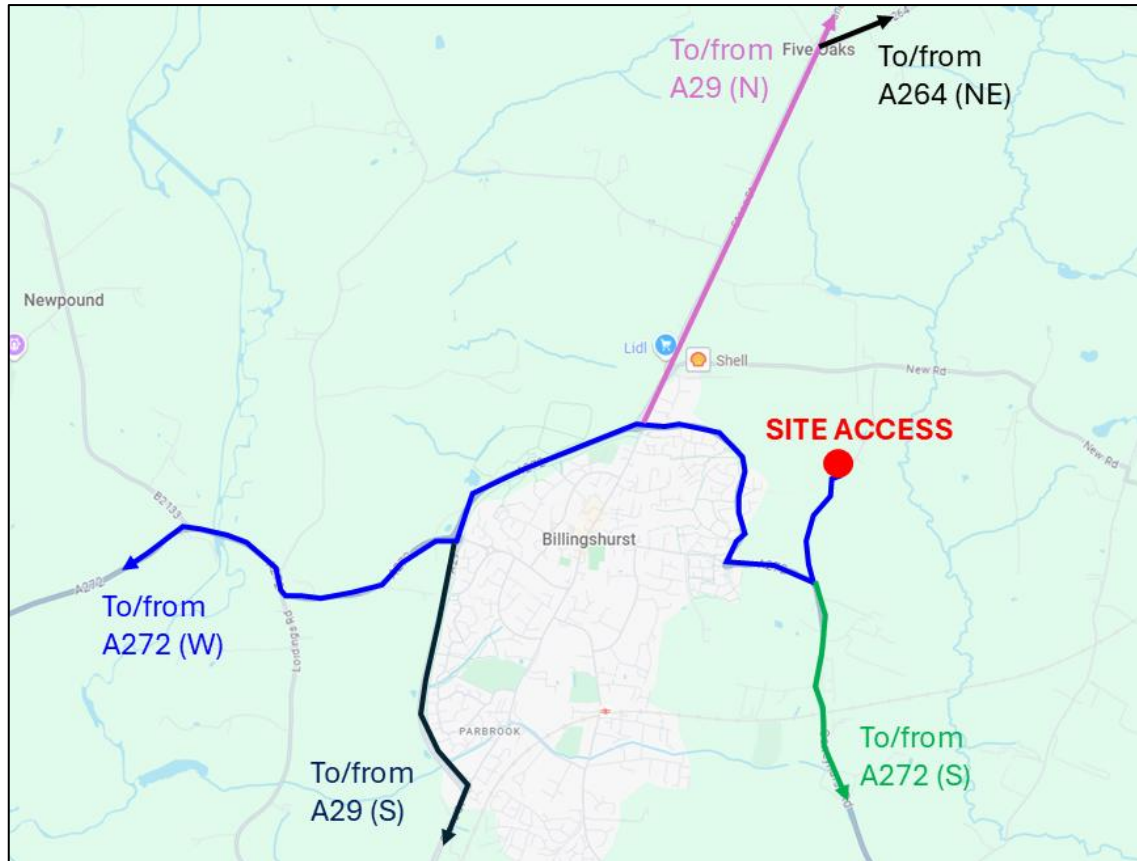

Figure 4.1: Indicative Routing Strategy
4.14 In order to access the site, vehicles will have to access Wooddale Lane via the A272 from Billingshurst or from the south, out of Billingshurst. Any heavy goods vehicles (max gross weight of 7.5 tonnes or higher) will be routed to avoid local residential roads. It is considered that the site can be accessed from the strategic road network along the A272 which can therefore accommodate regular HGV movements. Overall, it is considered that Wooddale Lane and the adjoining roads are sufficient to accommodate movements from site setup and construction vehicles associated with the site. The proposed site routing strategy is shown indicatively in **Figure 4.1**.